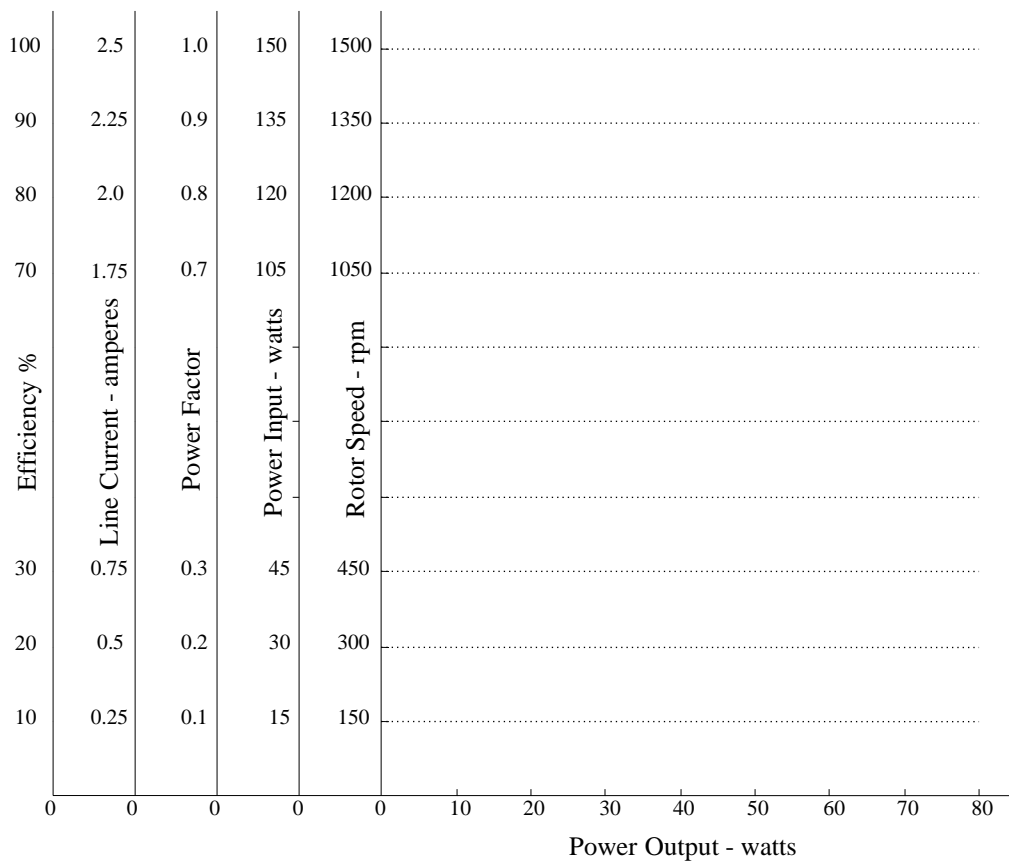

Figure 2
5. On the axes provided in figure 2 draw the load characteristics for the motor tested. The characteristics to be drawn are -
6. From the load characteristics drawn in figure 2 determine the full load -